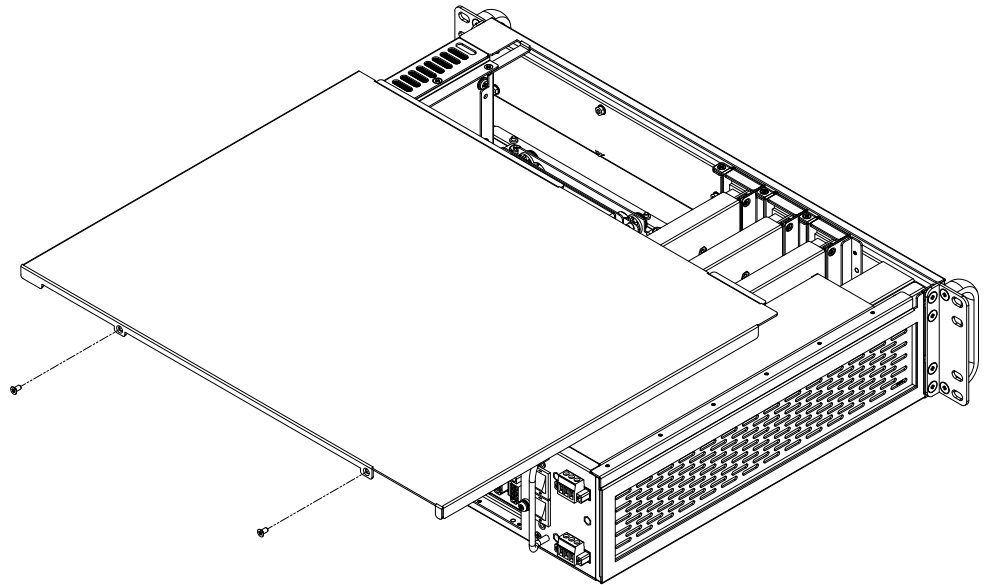

Figure 3.4: Top Cover Installation
1. Insert the notch end of the top cover into the front panel of the chassis, as shown in Fig. 3.4, and press firmly.